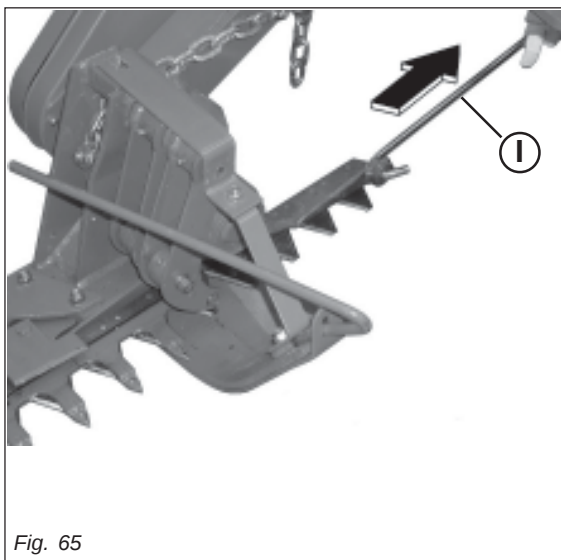

Fig. 65
- Remove the expansion pin (H, Fig. 64) and pull out the section-holding bar (Fig. 65) with the hooking tie rod (I, Fig. 65).
- Remove the expansion pin (H, Fig. 64) and slide out the section-holding bar (Fig. 65).